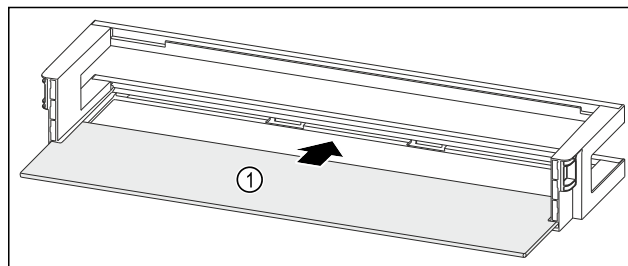

Fig. 90 Door racks with shelf
- Push the shelf Fig. 90 (1) into the side cutouts.